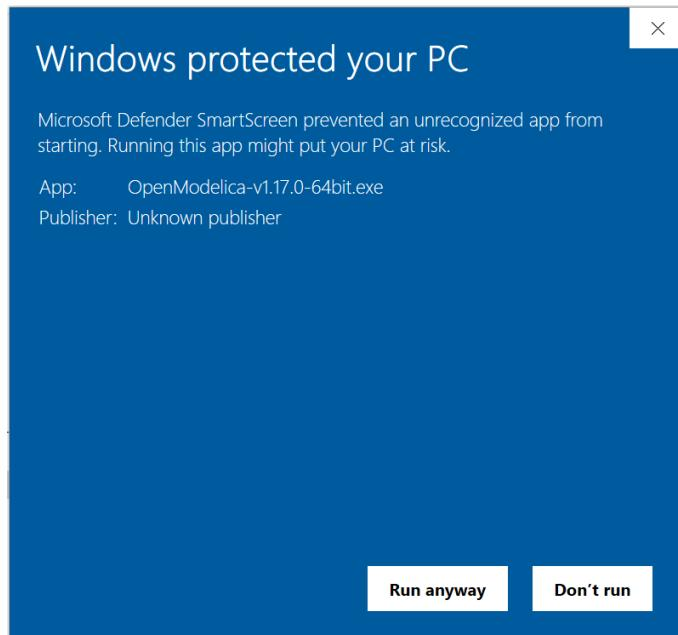

Figure 3.33: Allowing Microsoft Defender to run the executable file
5. Locate the executable file and double-click on it to begin the installation. After double-clicking on the executable file, you might get an alert on your screen (something like Windows protected your PC). If this happens, locate More info in this alert window and click on Run Anyway, as shown in Fig. 3.33 to continue with the installation. All the default parameters of the installation are acceptable.